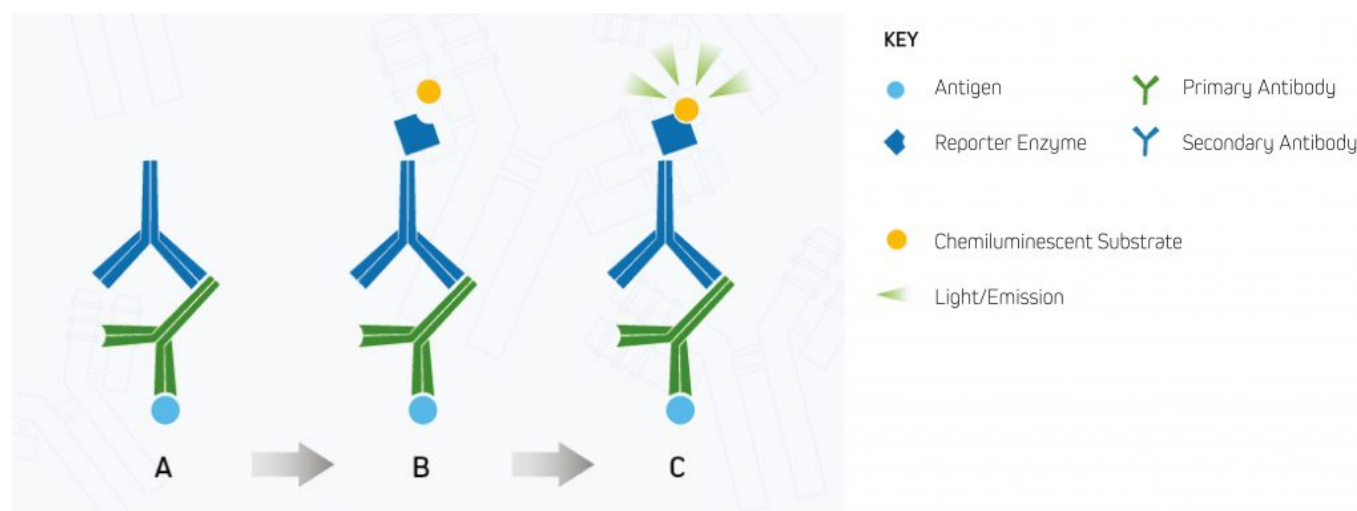

Figure 2. Indirect chemiluminescent detection.
Chemiluminescent detection uses Alkaline Phosphatase (AP) and Horseradish Peroxidase (HRP) reporter enzyme conjugates to enable visualization of the target protein. In chemiluminescent detection, the reporter enzyme catalyzes the development of a luminescent product that emits light instead of a colored precipitate (see Figure 2 below). The signal generated by the target protein(s) is then captured using an X-ray film or a CCD digital imager.